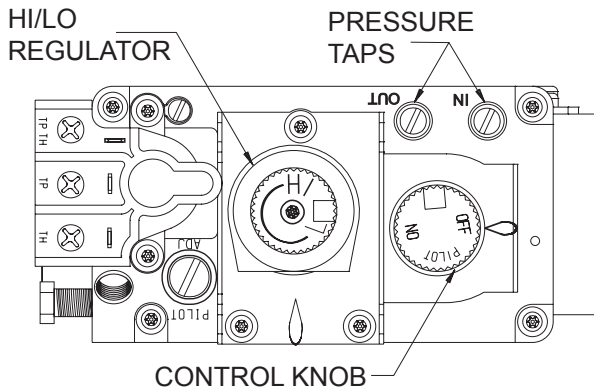

Figure 16 - Millivolt Valve
**NOTICE:** The gas control is equipped with a captured screw type pressure test point, therefore it is not necessary to provide a 1/8 inch test point up stream of the control. **See Figures 16 and 17.** When using copper or flex connector use only approved fittings. The fireplace and its individual shut-off valve must be disconnected from supply piping system during any pressure testing of that system at test pressures in excess of 1/2 psig (3.5 kPa).